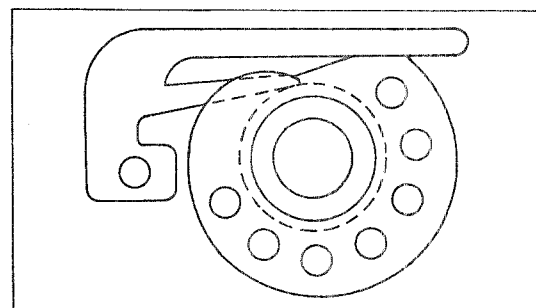

Fig. 26
- c) The thread cam pawl determines the looper thread length to take up and the thread release timing. Adjust the thread cam height not to let its pawl touch the dotted part of the thread guide as shown in Fig. 26.